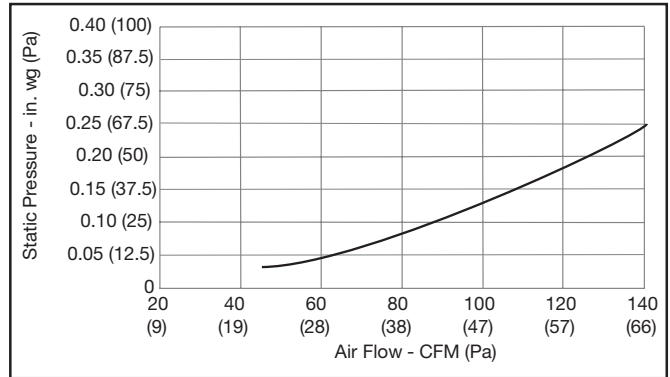

Figure 27. Exhaust Airflow Chart
2. Pairing with DXPL02 or DXPL03 Deluxe Control: Press the left and right buttons simultaneously on the control  and RESET buttons. The screen will go blank and the wireless symbol  appear flashing on the bottom right of the display. This indicates that the control is now in pairing mode (Figure 27, Box D).
3. Pairing with BC02, BC03, or BC04 Basic Controls: Press the left and right buttons simultaneously on the control buttons. The bottom row of three LEDs will begin flashing. This indicates that the main control is now in pairing mode (Figure 27, Box E).
1. Separate the face plate from the back plate by firmly pulling apart (Figure 27, Box A).
3. Place the back plate of the control in the desired location on the wall and pencil mark the top and bottom screw holes (Figure 27, Boxes B or C). Drill two 1/8" (3 mm) holes.
5. Attach the face plate to the back plate (Figure 27, Box F).